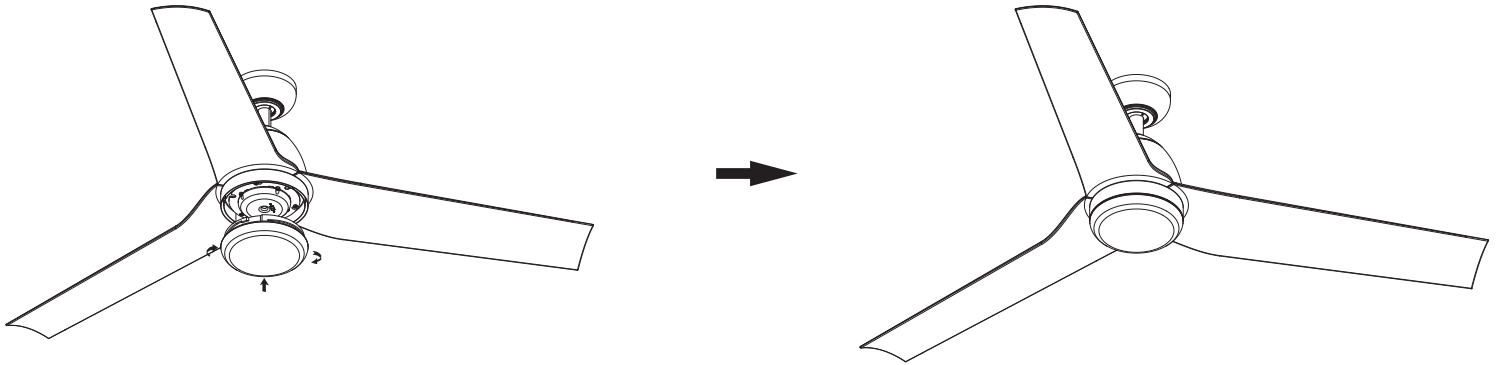

Figura 26
**NO LA APRIETE EN EXCESO. (Figura 26)**